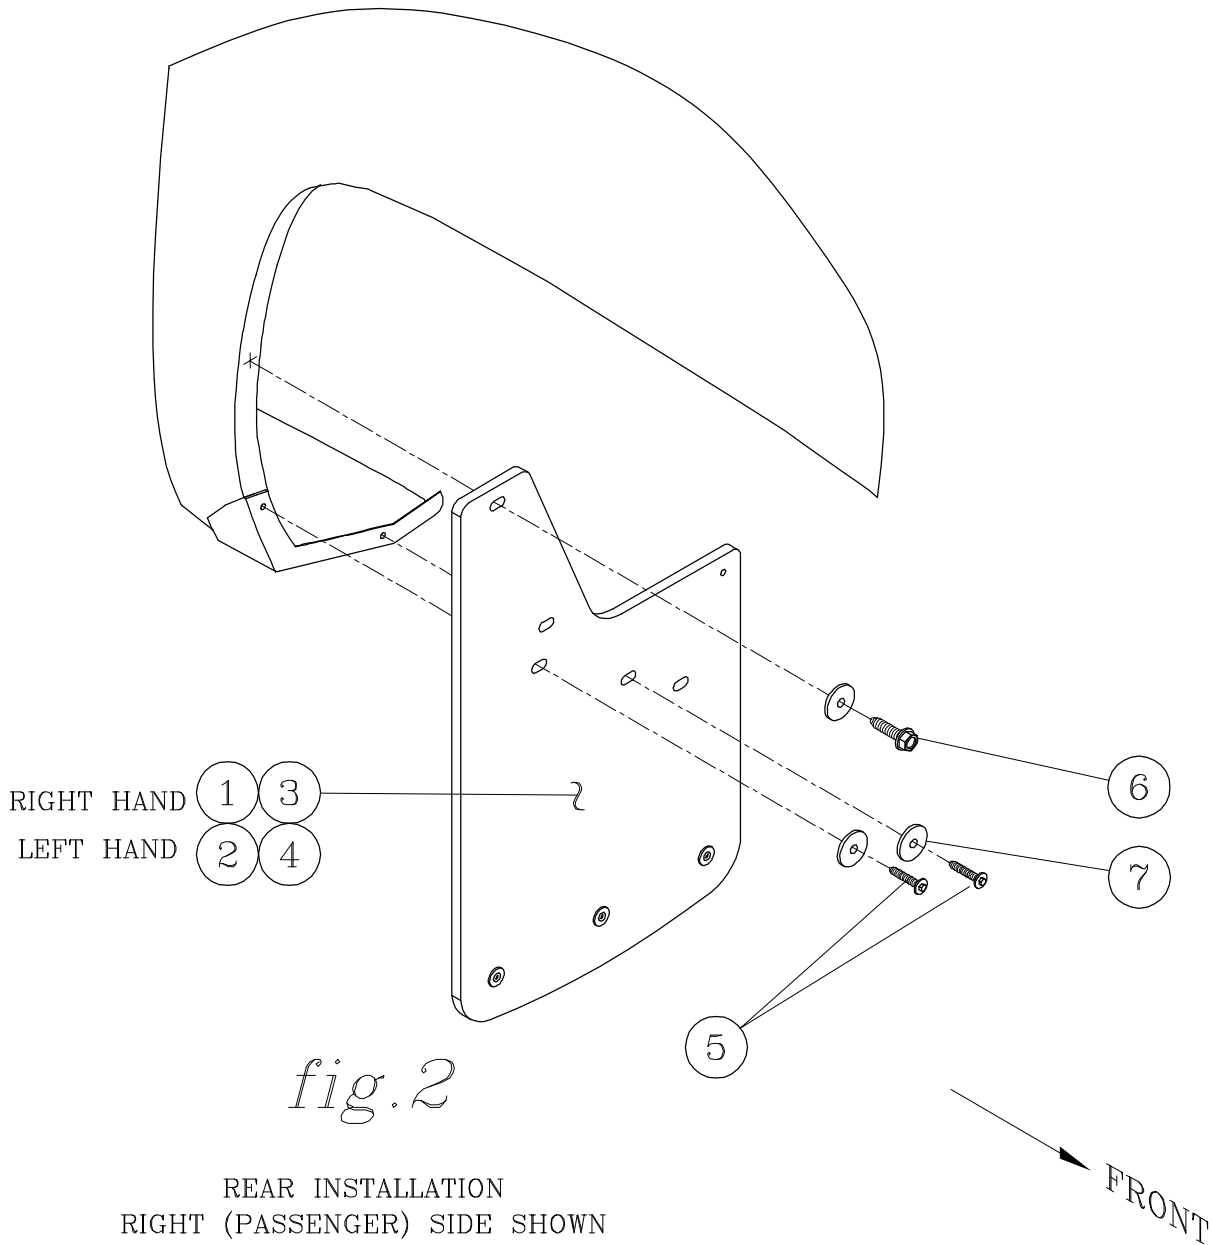

fig. 2
- 3.2 POSITION THE SPLASH GUARD AGAINST THE WHEEL WELL FLANGE AND INSTALL TWO HEX HEAD SEMS SCREWS WITH FENDER WASHERS (ITEMS #5,7) THRU THE TWO LOWER HOLES AS SHOWN IN FIG. 2. AND TIGHTEN DOWN.